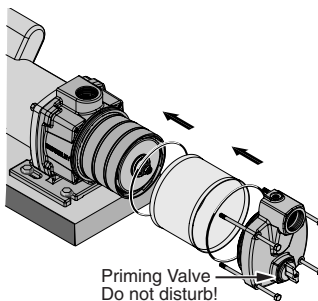

Figure 25
8. Reinstall the sleeve on the bracket and the pump suction body in the sleeve. Be sure that you do not pinch or damage the O-Ring. See Figure 25.